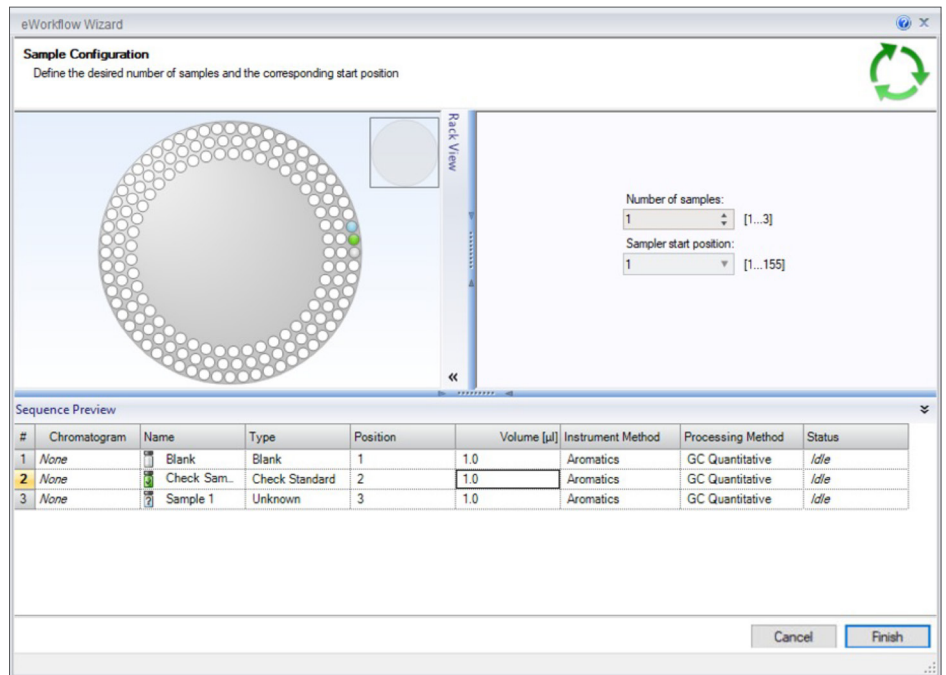

Figure 4. Start Run
2. Click Finish to start the analysis (Figure 4)